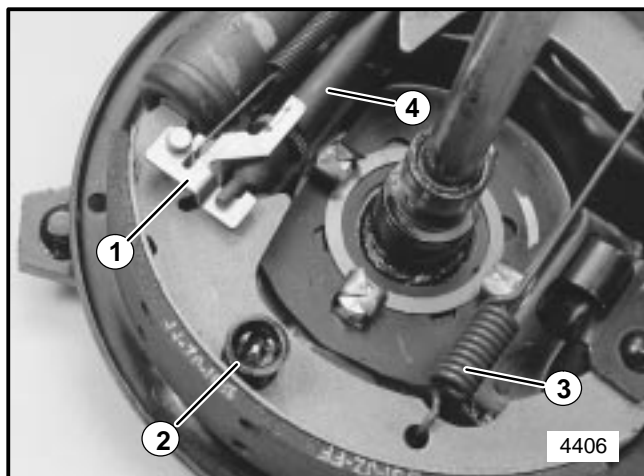

FIGURE 6
2. Disconnect both return springs from shoe assembly and brake lever. Remove shoe retainers. Remove brake lever and adjuster. Care must be taken not to disturb the hydraulic wheel cylinder. Remove the brake shoes from the backing plate. See Figure 6.